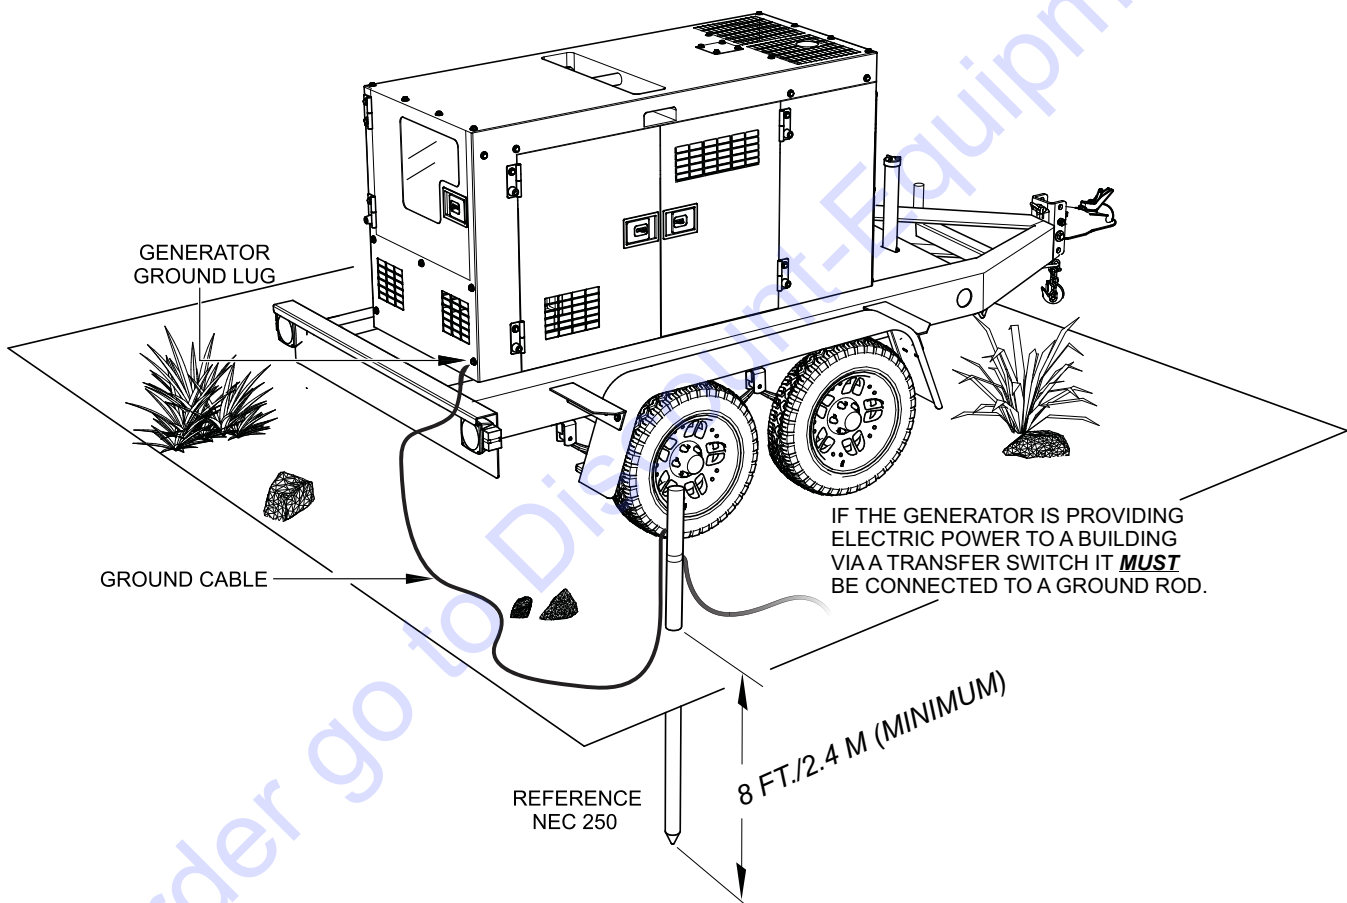

Figure 3. Typical Generator Grounding Application
Connect one end of the ground cable terminal to the generator ground point (Figure 3). Connect the other end of the ground cable to a suitable earth ground (ground rod).
The Occupational Safety and Health Administration (OSHA) and the National Electrical Code (NEC) recommend that if the generator is providing electrical power to a structure (home, office, shop, trailer, or similar) it **must** be connected to a grounding electrode system, such as a driven ground rod (Figure 3).
If applicable, to guard against electrical shock and possible damage to the equipment, it is important to provide a good **EARTH** ground (Figure 3).
2. When grounding of the generator (Figure 3) is required, connect one end the ground cable to the ground lug on the generator. Connect the other end of the ground cable to the ground rod (earth ground).